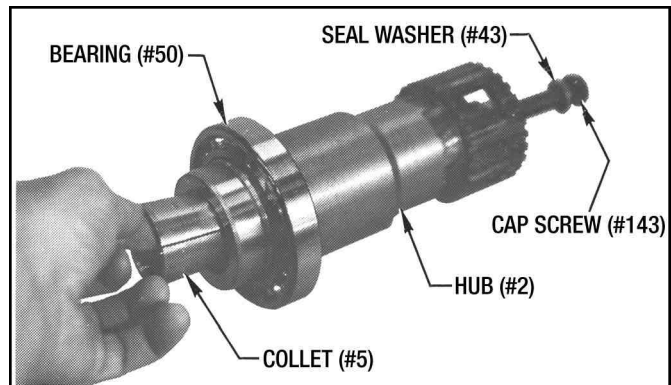

Figure 9.2 - Inserting Collet (#6) Into Hub Bore
2. Place a light coating of Loctite RC/680 on the outside of Bearing Cup (#54) and press it into the bore of C-Face Adapter (#1). Bolt C-Face Adapter to motor flange with (4) Washers (#169) and (4) Screws (#142).
5. Insert Collet (#6) into bore of Hub (#2). Apply a coat of Loctite Threadlocker #271 to threads of Cap Screw (#143). Install Cap Screw (#143) along with Seal Washer (#43) by inserting it into Hub (#2) and threading it into Collet (#6) one or two turns. Do not tighten Cap Screw (#143) as the collet must be loose in its bore at this point. (See Figure 9-2.)